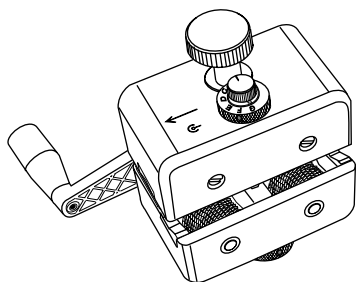

Figure 25
6.13 The Corning Cable Systems Universal Access Tool III is designed to access the fibers of a single-tube cable in a mid-span location where slack is present (Figure 25).